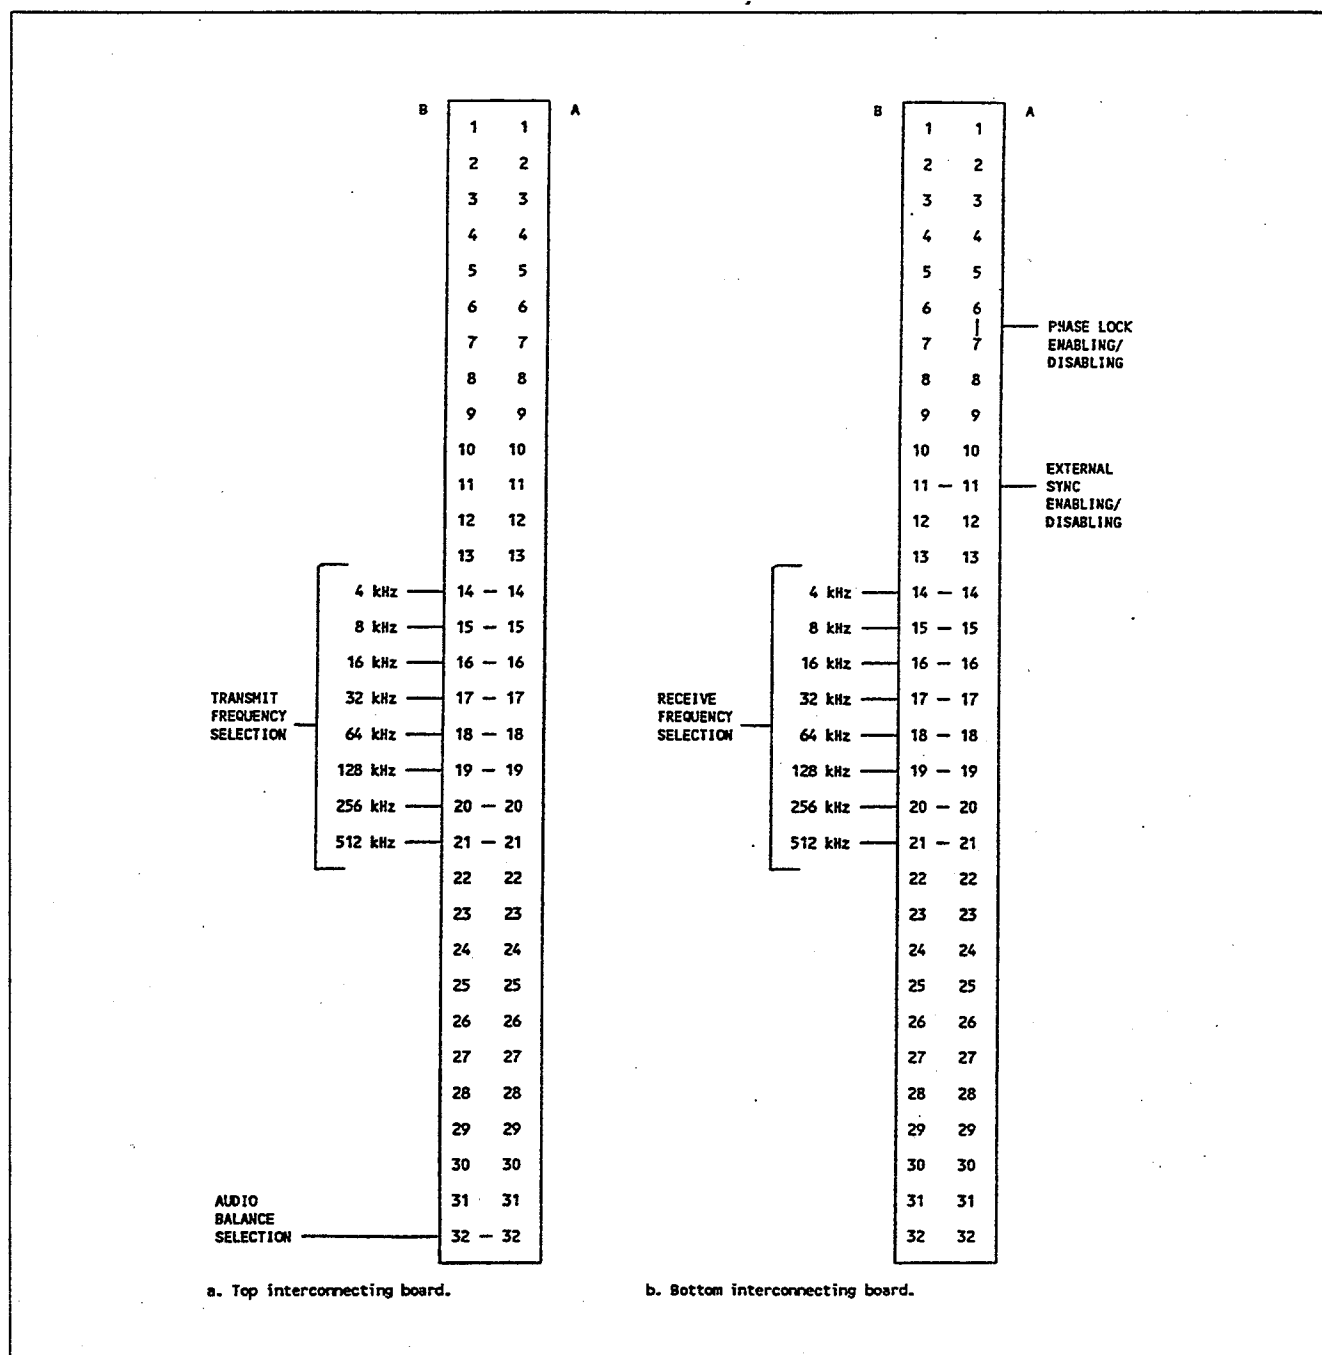

Figure 3-14. Jumper locations on mating connectors for 95 MODEM modules
**a. Modem Position Programming.** Each modem position in the 95 CHAS chassis is programmed by the placement of jumpers on its mating connectors on the chassis interconnecting boards. (See Figure 3-14.) Once this is done, any modem module inserted into a particular position will adapt itself to the programming of that position.
**(1) Frequency Selection.** Each 95 MODEM can be programmed to transmit and receive on any frequency from 4 kHz to 512 kHz that is evenly divisible by 4 kHz (4 kHz, 8 kHz, 16 kHz, etc). Pins A14/B14 through A21/B21 of the top mating connector control the transmit frequency, and A14/B14 through A21/B21 on the bottom connector control the receive frequency.